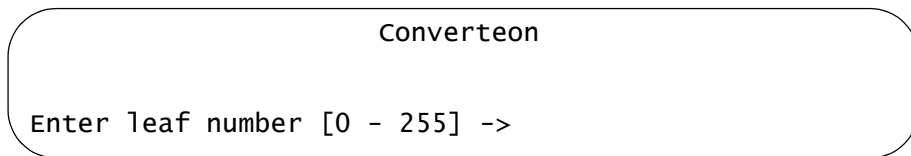

Figure 103. Enter Leaf Number Prompt
6. Enter the branch number of the MIB package or object to be returned. The range is 0 to 255. The prompt in Figure 103 is displayed.